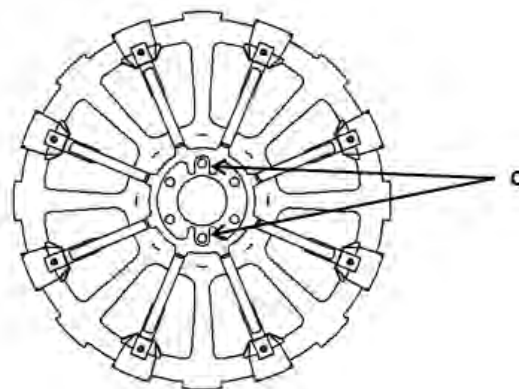

Figure 45: Center Mount Wheel Filler Hole Alignment
NOTE: If bolts (B) are removed, they must be reassembled in holes (C) shown below in Figure 45. The bolts must line up exactly in line with the opposite spokes of the lifter wheels or they will not line up correctly on the wheel fillers.